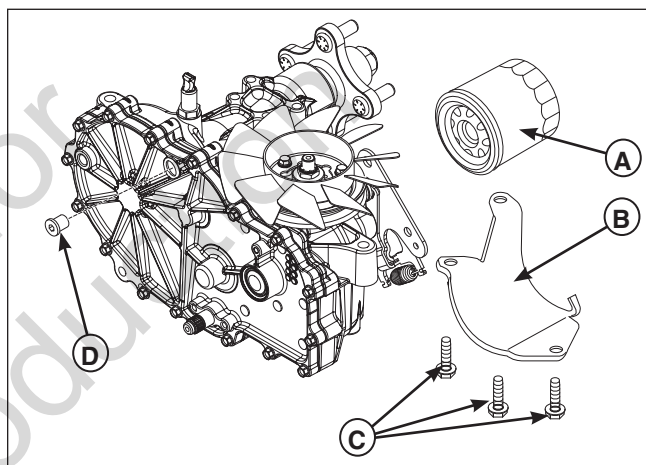

Figure 28. Transmission (Left Side Shown.)
1. Locate the transmission oil filters (A, Figure 28) underneath the rear of the machine on the transmissions.
2. Remove the three 1/4" filter guard screws (C) and the filter guard (B).